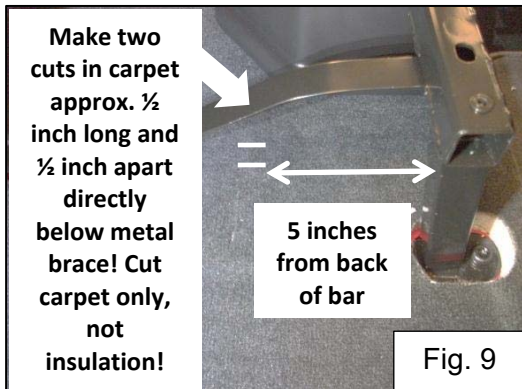

Fig. 9
15. Make two ½ inch long cuts in carpet directly below the metal brace pictured in Fig. 9. Only cut through the carpet layer, and not the insulation. The cuts should be approximately ½ inch apart.